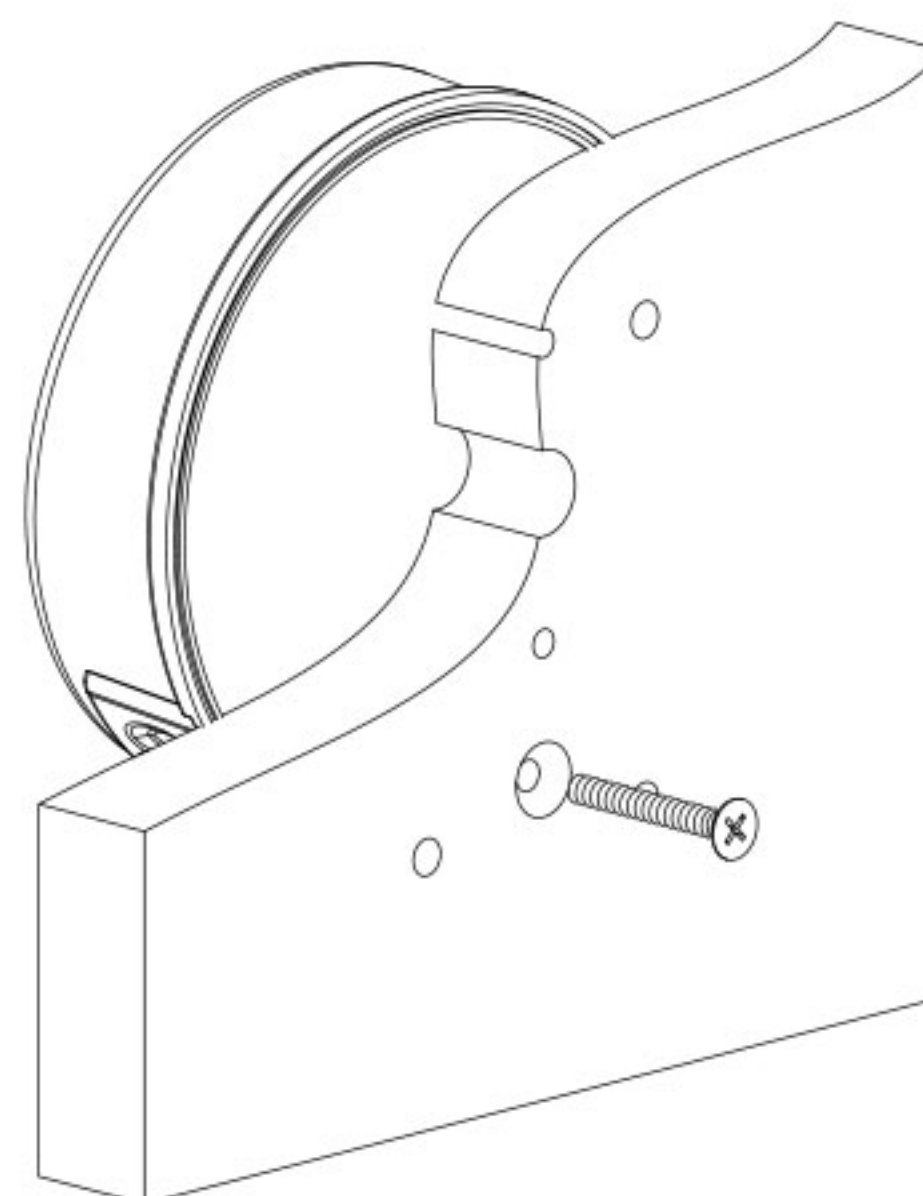

Fig. 5
- Secure the entrypad: Install a M4 screw at the bottom from inside safe, as shown. The entrypad can't be capable of being removed from outside. Proper screw and installation way should be adopted to avoid being interfered with the swingbolt actuator. (Fig. 5)The actuator loses the approval if the 4 mm screw in Fig. 5 is not installed.